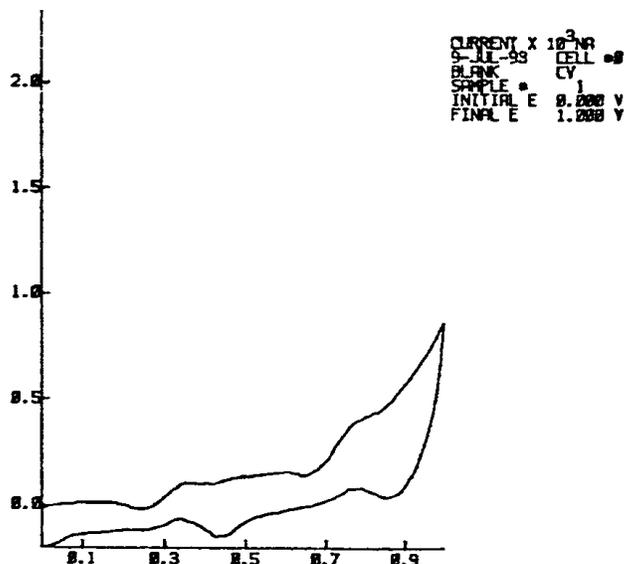

Figure 2. PLAYBACK OF BLANK
4. Press **PLAYBACK**. The playback data will be automatically scaled and should appear something like Figure 2, although wide variations are possible.